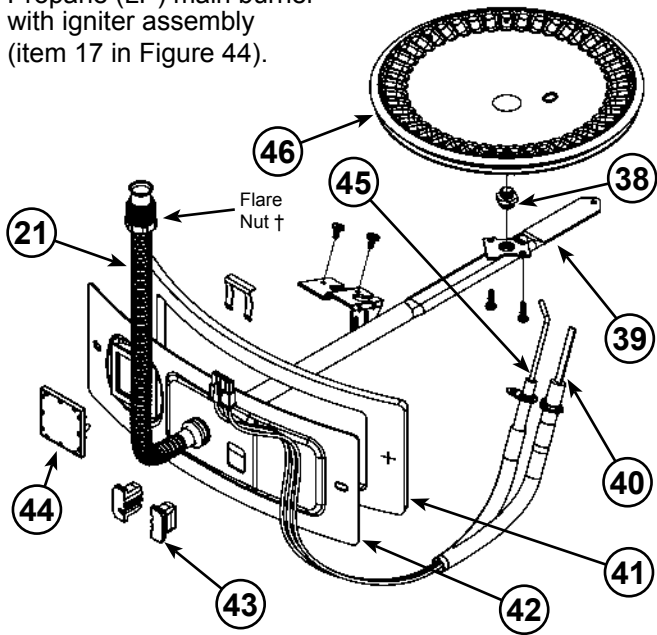

Figure 47
- 46 Stainless Steel Burner (see Figure 4) (see also **Figure 47**)